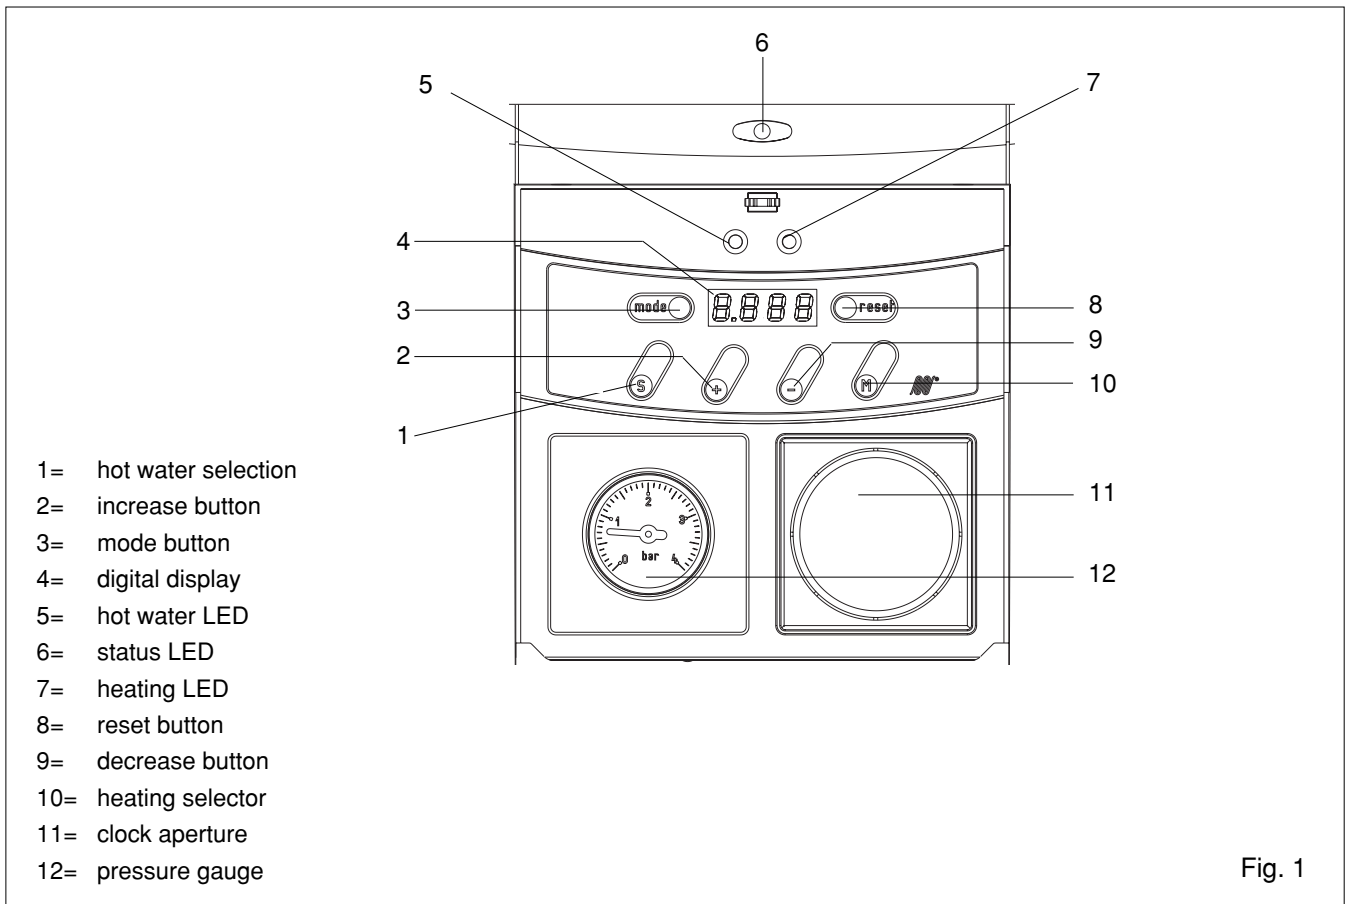

Fig. 1
2.2 APPLIANCE CONTROLS (fig. 1)
The heating mode can be switched ON or OFF at the boiler irrespective of the current time clock setting. This is indicated by the heating LED (fig. 1). If the heating LED is illuminated, this indicates that the heating mode is enabled and is controlled via the time clock and any external controls such as a room thermostat.
The hot water mode can be switched ON or OFF at the boiler. This is indicated by the hot water LED (see fig. 1).
2.3.5 STATUS LED (fig. 1)